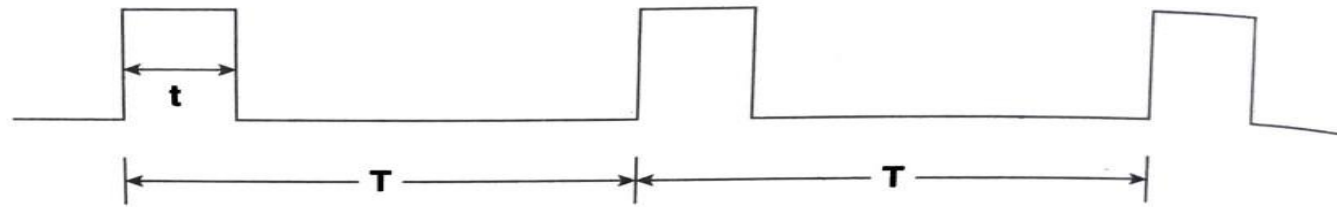

Figure 6.16 A PWM waveform
- Fig 6.16 shows a pulse stream in which t is the ON period and T, the pulse period. The duty cycle is defined as